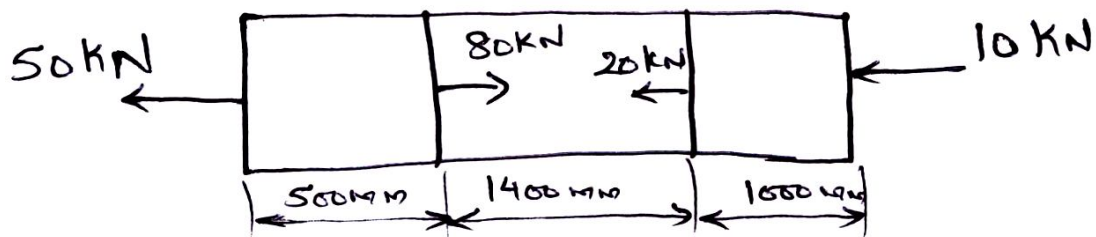

Fig.Q2(b)
b. A brass bar having cross-sectional area  $300\text{mm}^2$  is subjected to axial forces as shown in Fig.Q2(b). Find the total elongation of the bar.  $E = 84\text{ GPa}$ .